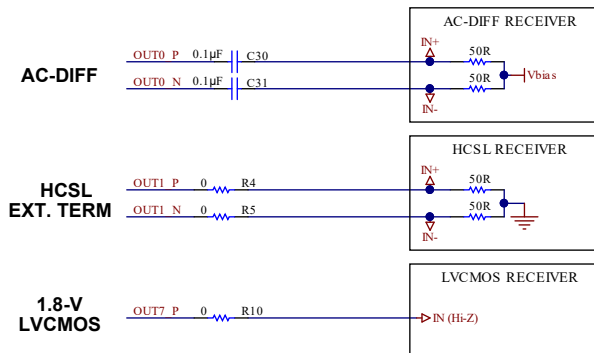

图 10-4. LMK05318B Reference Schematic Example
- For a 3.3-V LVCMOS driver, follow the OSC clock interface example in 图 10-4. Power the OSC from a low-noise LDO regulator or optimize its power filtering to avoid supply noise-induced jitter on the XO clock.
- Reference inputs: Follow the LVCMOS or differential clock input interface examples in 图 10-4 or in 节 9.3.3.
- Clock output Interfacing: Follow the single-ended or differential clock output interface examples in 图 10-4 or in 节 9.3.14.
- Power all the VDD pins with proper supply decoupling and bypassing connect as shown in 图 10-4.